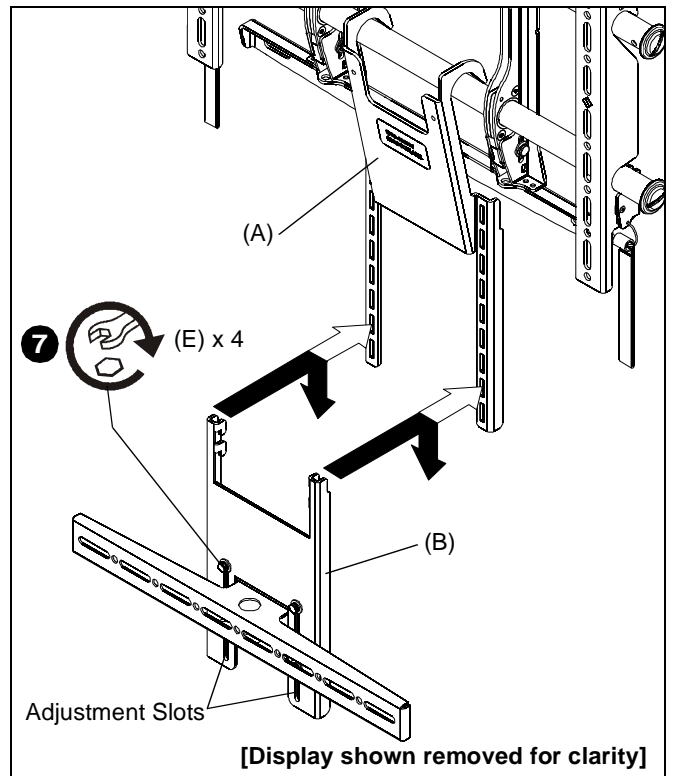
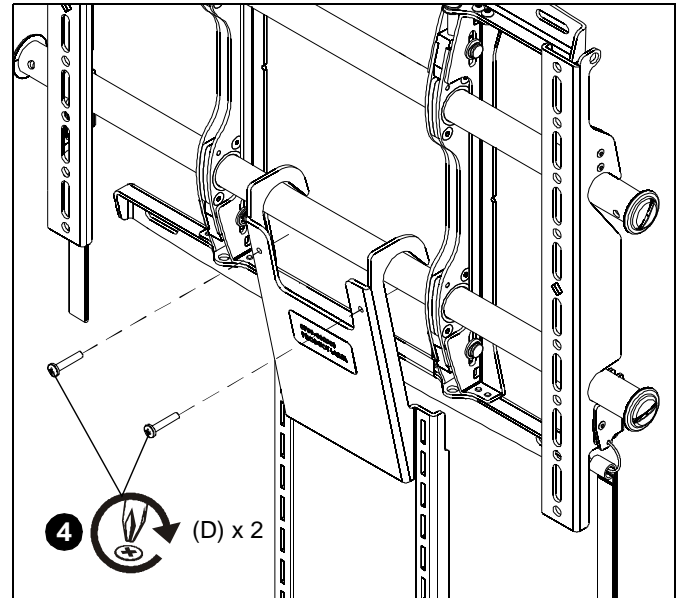

Figure 3
Figure 5
3. Hang hook bracket with attached speaker bracket onto the upper hook bracket (A). (See Figure 3)
**NOTE:** The hook bracket with attached speaker bracket may be adjusted up or down on the upper hook bracket (A) in  $7/8$ " increments for  $6-1/8$ " adjustment. There is also a  $1-3/8$ " infinite adjustment on the hook bracket (B) for a total height adjustability of  $7-1/2$ ".
- Adjust the speaker height by holding onto hook bracket (B) while using the adjustment slots to fine tune the speaker height.
- Tighten four screws (E) with a  $3/8$ " wrench. (See Figure 3)
**NOTE:** The hook bracket (B) with attached speaker bracket may be adjusted up or down on the upper hook bracket (A) in  $7/8$ " increments for  $6-1/8$ " adjustment, PLUS  $1-3/8$ " infinite adjustment on the hook bracket (B) for a total height adjustability of  $7-1/2$ ".
- Adjust location of FCC100 and secure to wall mount rail using two 10-24 x 1" Phillips pan head screws (D). (See Figure 5)